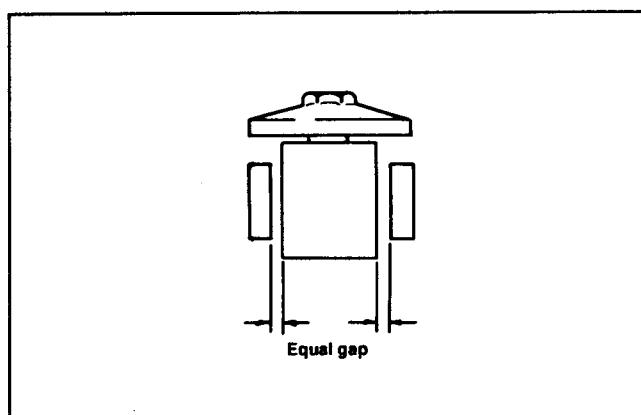

Figure 32
13. Thread adjustment knob and pivot assembly into flat side of bedbar pivot (left-hand thread). Make sure there is an equal gap between each side of pivot assembly housing and frame supports (Fig. 32). Adjust (before installing pivot screws) by sliding bedbar sideways.